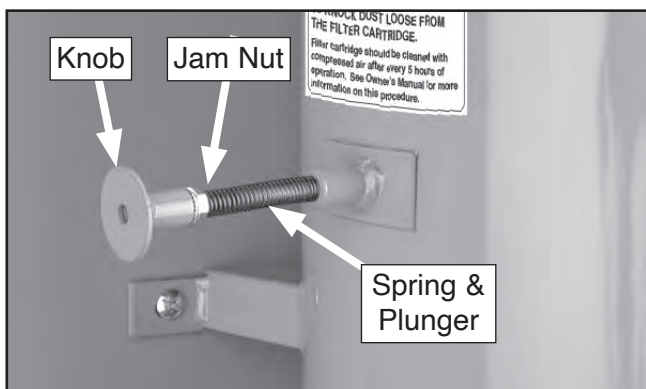

Figure 10. Canister plunger.
- Place spring on plunger shaft, and thread jam nut and knob onto plunger, as shown in **Figure 10**.